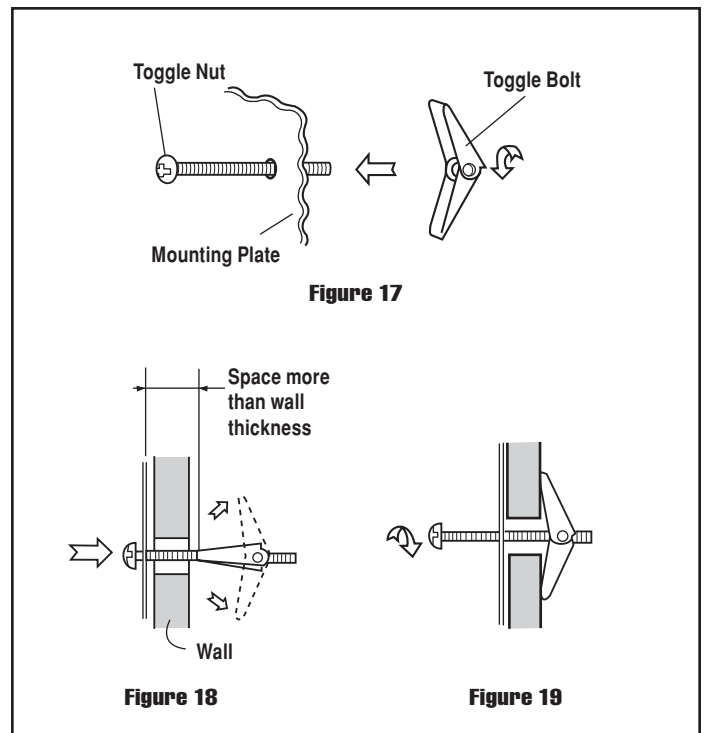

Figure 17
3. Insert Toggle Bolts into matched openings on Mounting Plate. Put Toggle Nuts on Toggle Bolts. See Figure 17.